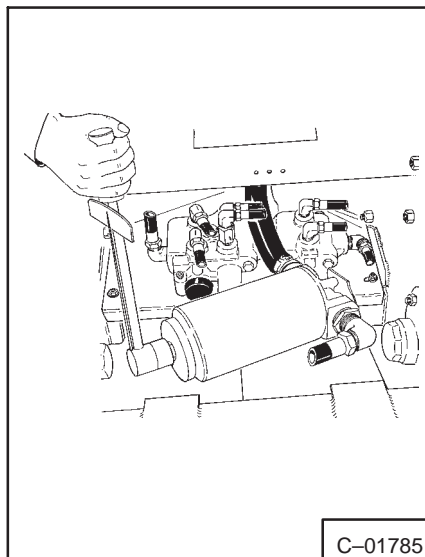

Fig. 1-5 Installing Filter Assembly
9. Install filter assembly to loader and tighten nut to 12 ft.-lbs. (83 kPa) (Fig. 1-5).